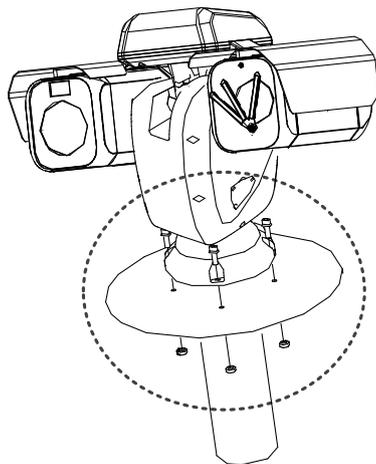

Figure 3-3 Install the Positioning System
2. Fix the positioning system onto the bracket base, as shown in Figure 3-3.